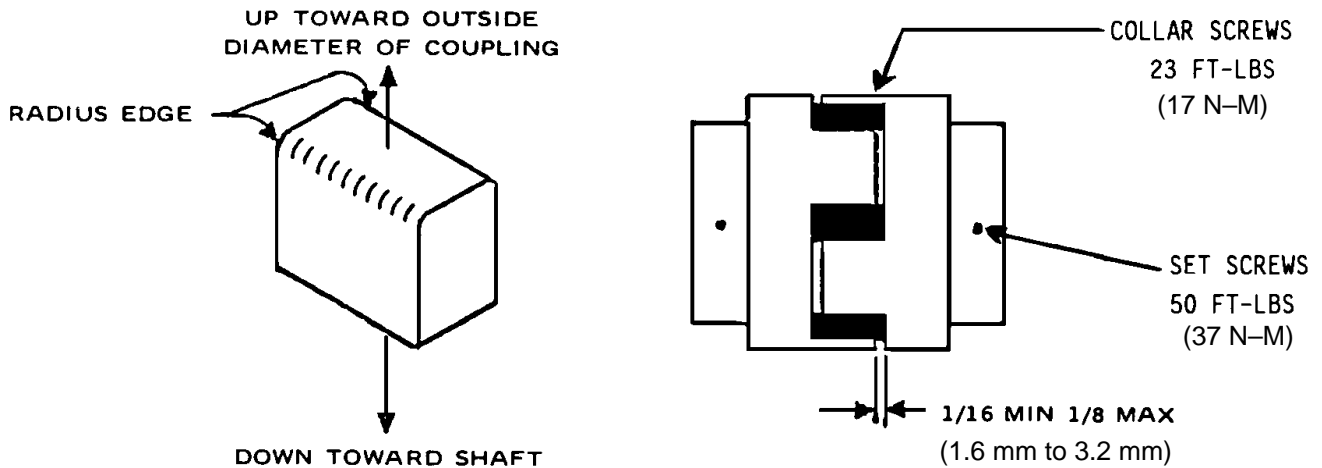

FIGURE 7-1 – INSTALLATION OF COUPLING CUSHIONS
- Working through the coupling guard opening, center the coupling over the gap between the shafts, maintaining the gap as shown in FIGURE 7-1 between the ends of the jaws on one coupling body and the flange on the opposite coupling body. Tighten set screws in each coupling body.
- Insert individual cushions as shown in FIGURE 7-1 and slide the collar over the cushions and secure with cap screws. Reinstall the cover plate.
Individual Cushion Design (FIGURE 7-1)